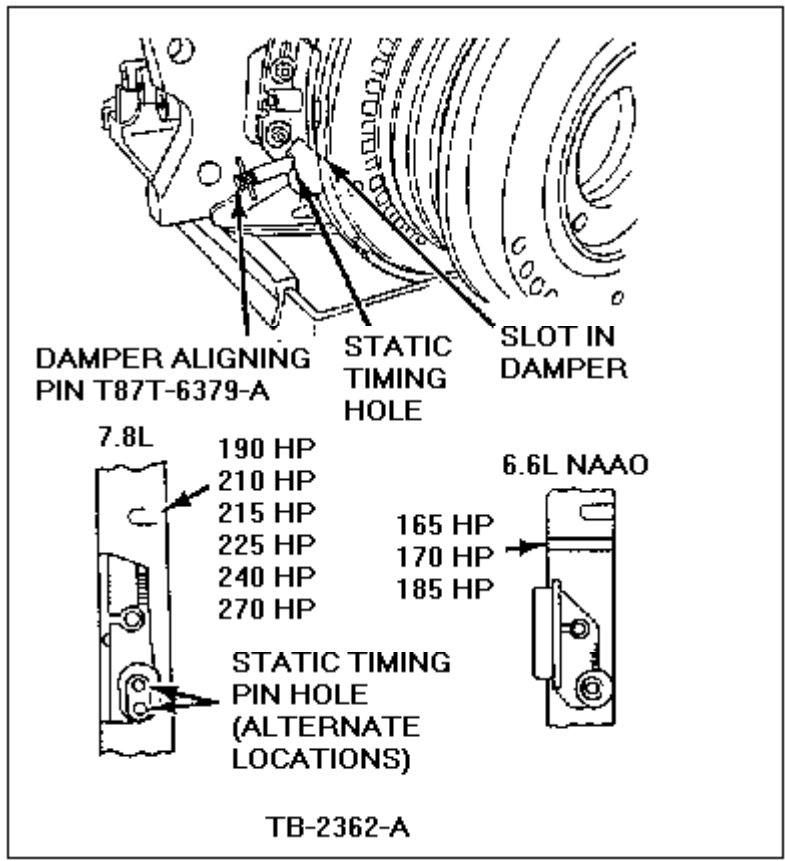

Figure 1 - Article 91-25-20
- b. Fit Damper Aligning Pin T87T-6379-A through the timing bracket into the correct crankshaft damper groove, Figure 1.